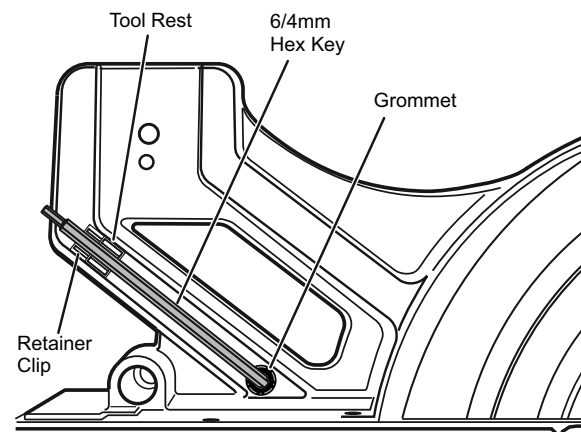

Figure 2. Hex Key Storage
**Storing the 6/4mm Hex Key** – There is a storage location on the saw to store the 6/4mm hex key. Insert the short leg of the hex key through the rubber grommet as shown. Place the long leg into the tool rest and press down into the retainer clip (see Figure 2).